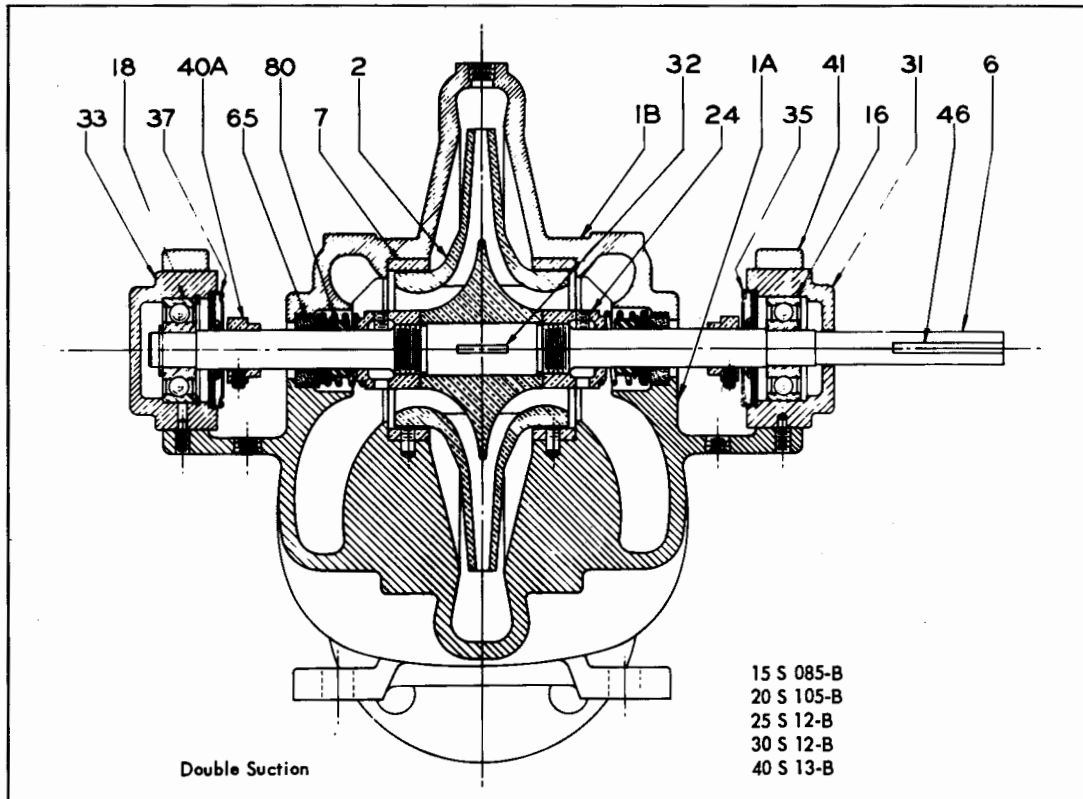

FIGURE 2. SEALED TYPE PUMP CROSS SECTION
a. Remove nuts from gland bolts (17B) and detach gland halves (17) (separable) from shaft (6). Gland flanges (17D) are not separable.
b. Loosen set screws in water deflectors (40A, figure 2), and slide deflectors into the casing to compress mechanical seal approximately 1/8 inch. Tighten set screws.
c. Take off all nuts and cap screws from upper casing (1B) and from both bearing caps (41). Turn pump jack screws clockwise alternately and evenly to separate upper casing from lower casing. After the casings have separated, turn jack screws back so that they will not interfere with the pump reassembly.
d. Match mark each bearing cap (41) so that it can be reinstalled in the same position and location. Then take off both bearing caps.
f. Place suitable slings around each end of shaft (6) near the bearing housings. While tapping lightly on underside of bearing housings, lift rotating element from lower casing. Place in a convenient work area.
g. Loosen coupling set screw and tap coupling at back of its hub to remove from shaft. If coupling does not come off easily, use a suitable puller to pull from shaft. Extract coupling key (46).